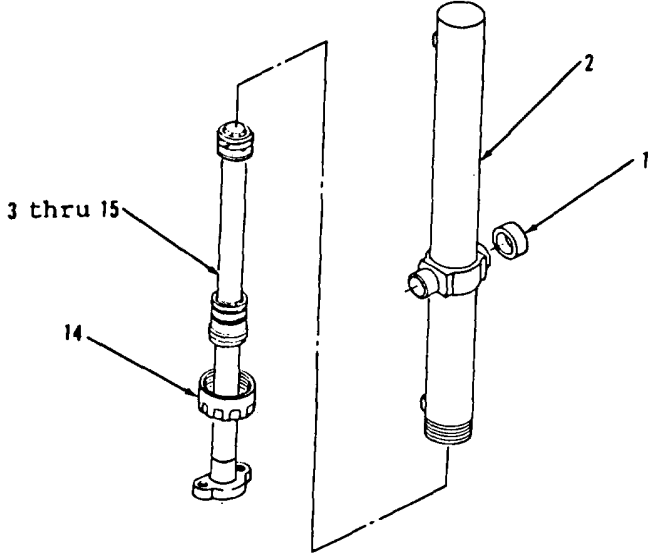
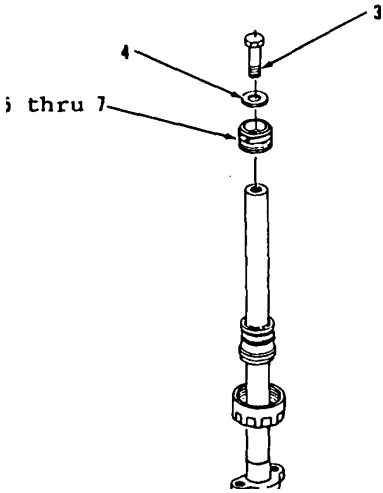
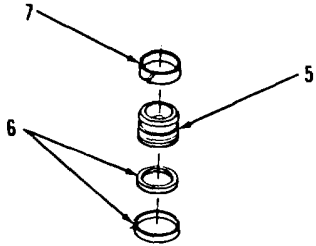

Figure 17-17.
Figure 17-18.
Figure 17-19.
1. Using suitable puller, remove two bearings (1) from trunnion of cylinder (2, Figure 17-17).
2. Using chain wrench, loosen crown (14).
3. Remove items 3 thru 15 as an assembly from cylinder (2).
4. Remove bolt (3) and washer (4, Figure 17-18).
5. Remove items 5 thru 7 as an assembly.
6. Remove seal assembly (6) and ring (7) from piston (5, Figure 17-19). Discard seal assembly (6).
- 7. Install items 7 thru 5 as an assembly on rod (15, Figure 17-18).
- 8. Using thread lubricant, lubricate threads of bolt (3).
- 9. Install washer (4) and bolt (3). Tighten bolt (3) to 800 ft-lb torque.
- 10. Using clean grease, lubricate outside of head (13) and inside of crown (14, Figure 17-17).
- 11. Install items 15 thru 3 as an assembly on cylinder (2).